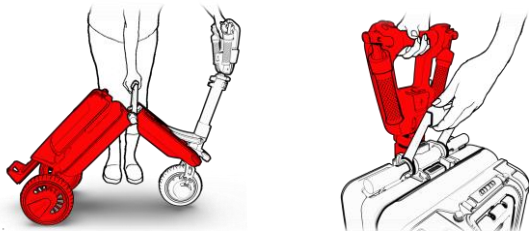

Figure 43
- Use the main handle to pull the center upward and toward the rod (See Figure 43, step 1) until it clicks and locks in place (See Figure 43, step 2).